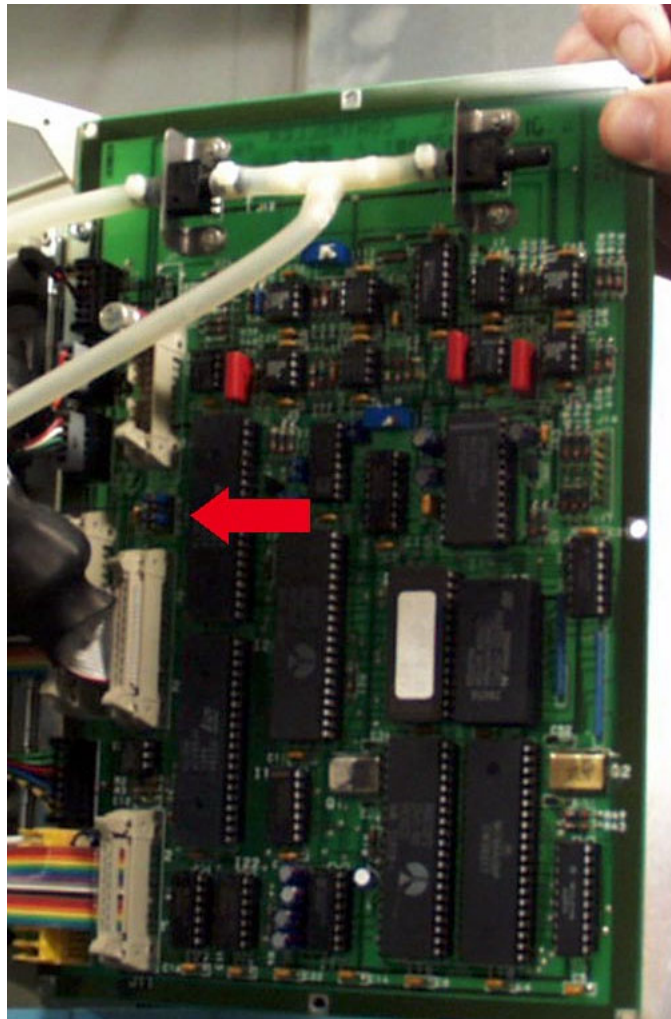

Figure 1
103 Open the side, like a door, and on the inside board, at the location of J9, remove the blue cover jumper from pins 1-8. See arrow in Figure 1.
- 123 Replace the blue cover jumper on pins 8-1-8 at J-9 on the inside board of the side. See Figure 1.